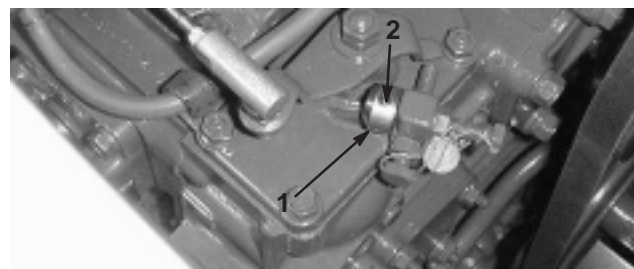

Figure 1
2. Slide throttle stop onto high idle stop screw (Fig. 1). Slot in throttle stop to be positioned over rib on engine.